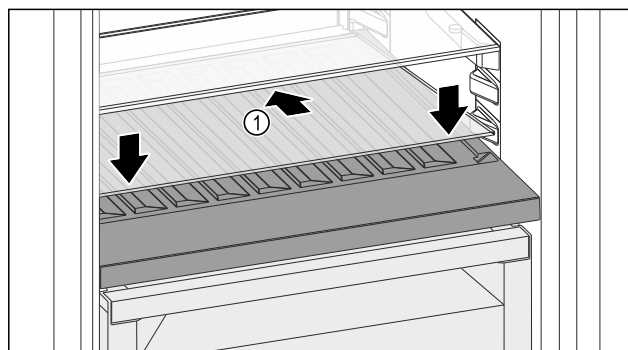

Fig. 159
- Place the glass shelf Fig. 159 (1) at an angle, tilted back and down.
- Lower the glass shelf Fig. 159 (1) at the front.